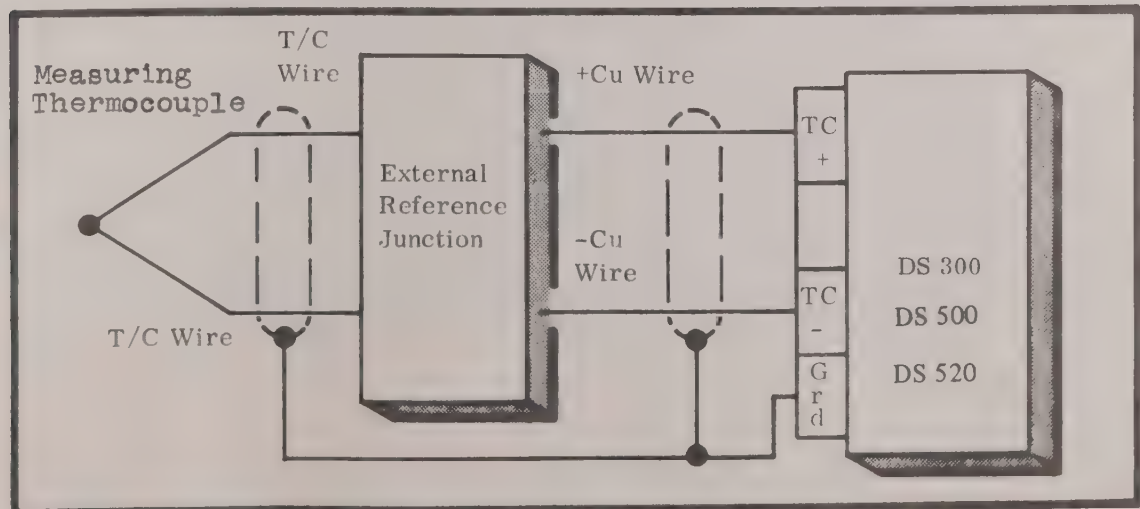

FIG. 2-3 EXTERNAL REFERENCE JUNCTION
- c. If the thermocouple is routed to an external reference junction, the circuit shown in Figure 2-3 must be used.